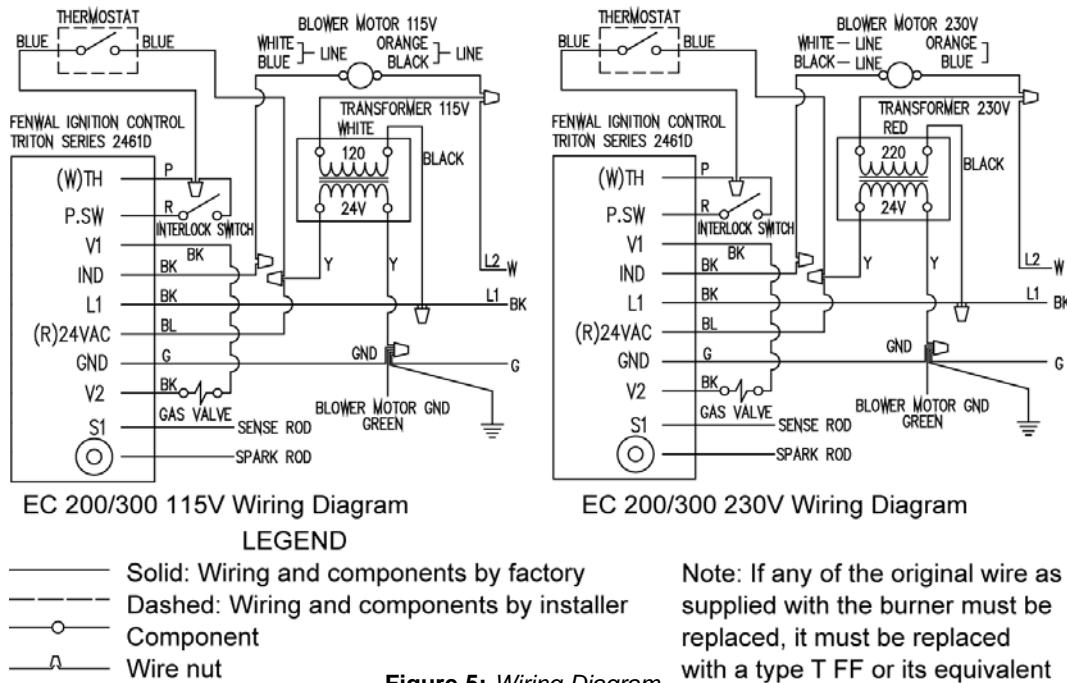

Figure 5: Wiring Diagram
□ Refer to the wiring diagram Figure 5 or the same wiring diagram supplied on the inside of the burner wiring enclosure. There are three leads (black - L1, white - L2 and green - ground) and two thermostat wire leads (blue) inside the wiring enclosure. **For proper operation, the burner must be electrically grounded.**